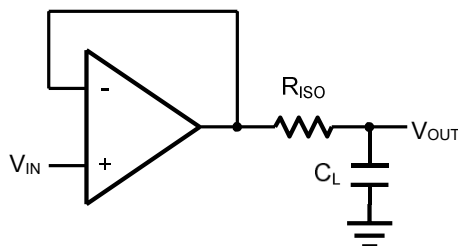
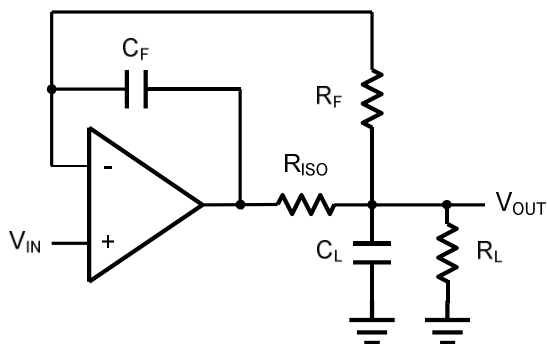

Figure 2. Indirectly Driving a Capacitive Load Using Isolation Resistor
Figure 3. Indirectly Driving a Capacitive Load with DC Accuracy
The OPAx376 family is optimized for bandwidth and speed, not for driving capacitive loads. Output capacitance will create a pole in the amplifier's feedback path, leading to excessive peaking and potential oscillation. If dealing with load capacitance is a requirement of the application, the two strategies to consider are (1) using a small resistor in series with the amplifier's output and the load capacitance and (2) reducing the bandwidth of the amplifier's feedback loop by increasing the overall noise gain. Figure 2. shows a unity gain follower using the series resistor strategy. The resistor isolates the output from the capacitance and, more importantly, creates a zero in the feedback path that compensates for the pole created by the output capacitance.
The circuit in Figure 3 is an improvement to the one in Figure 2. RF provides the DC accuracy by feed-forward the VIN to RL. CF and RISO serve to counteract the loss of phase margin by feeding the high frequency component of the output signal back to the amplifier's inverting input, thereby preserving the phase margin in the overall feedback loop. Capacitive drive can be increased by increasing the value of CF. This in turn will slow down the pulse response.